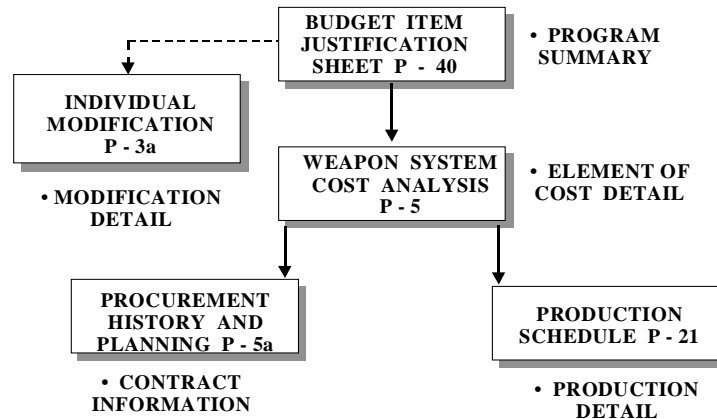

Figure 1
Figure 1 shows how information relates between the P-Forms.
2. All other P-forms provide detailed information to support the P-40 as shown on the P-Form flow chart (Figure 1).